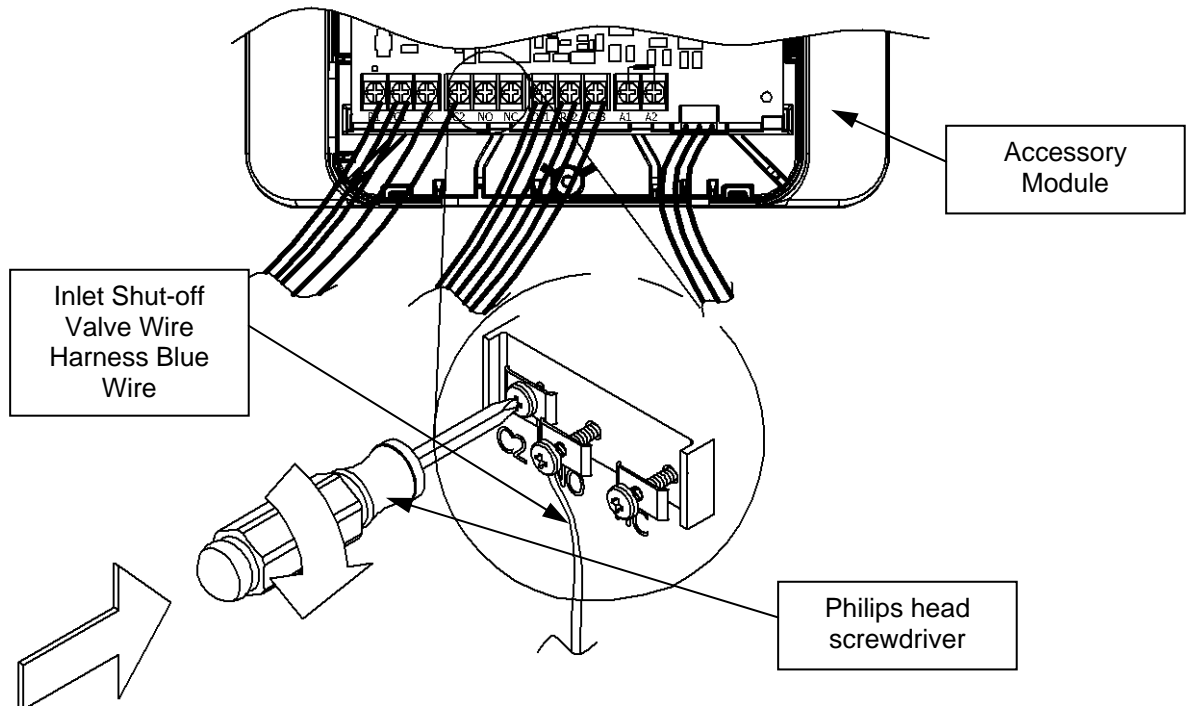

Figure 77
Step 10: Tighten the screw labeled "C2." This is shown in Figure 77.